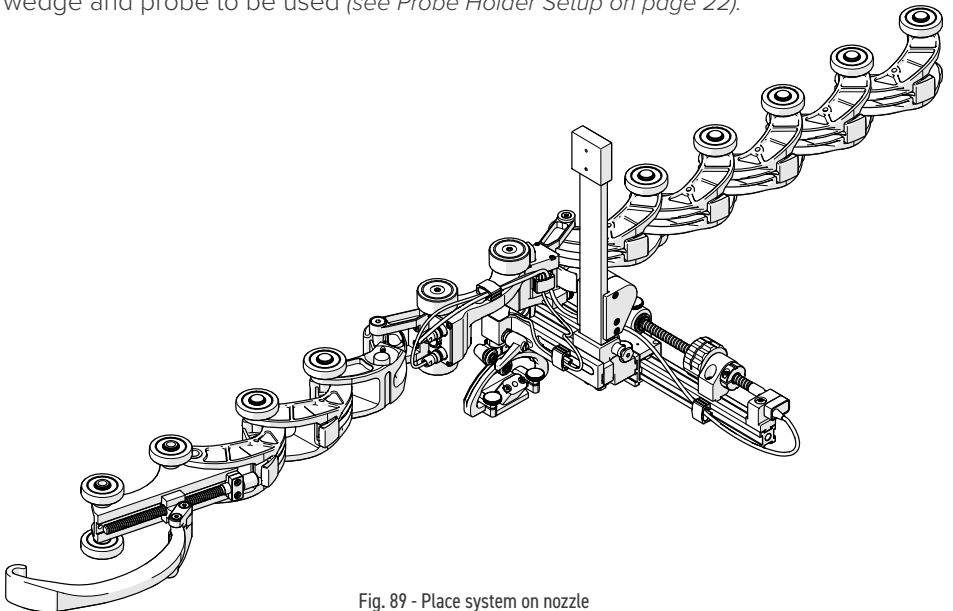

Fig. 89 - Place system on nozzle
- 3. On a flat surface, connect the appropriate amount of links as indicated on the **ROTIX** setup chart. Arrange the link setup so the buckle and catch link will be 180° opposite the low profile link (*Fig. 89*).